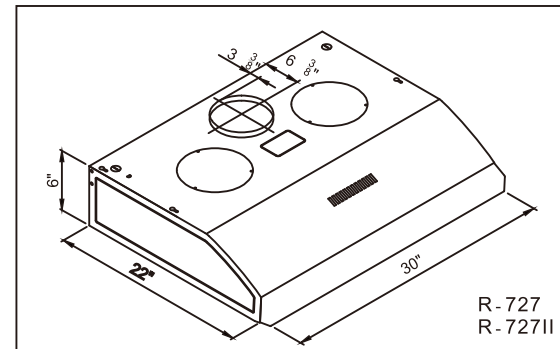
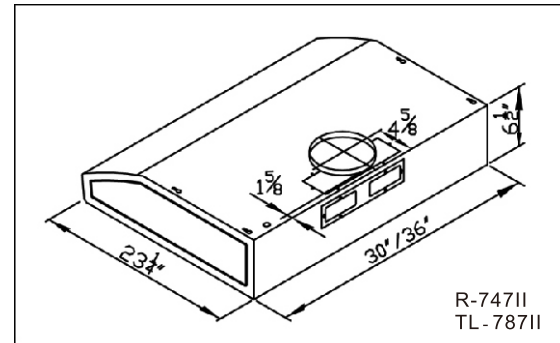
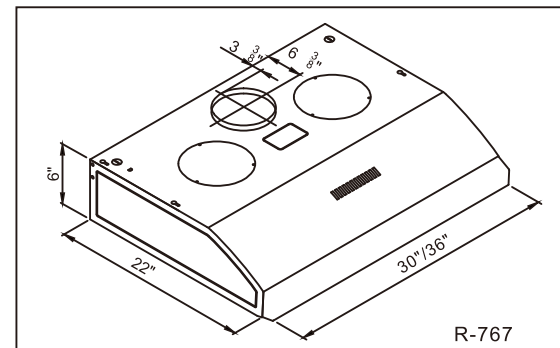

Fig.1
Fig.2
Fig.3
1.Dimension details.(Fig.1) (Fig.2) (Fig.3)